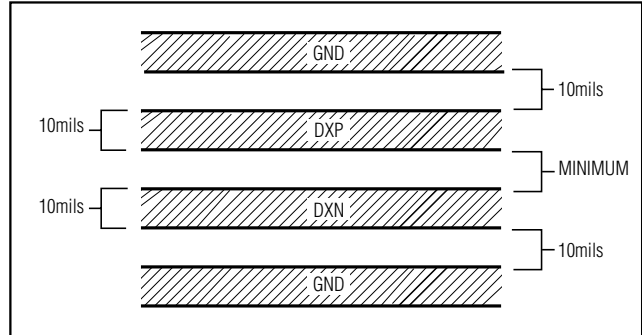

Figure 2. Recommended DXP-DXN PC Traces
- 3) Route the DXP and DXN traces in parallel and in close proximity to each other, away from any higher voltage traces, such as 12VDC. Leakage currents from PC board contamination must be dealt with carefully since a 20M Ω leakage path from DXP to ground causes about 1°C error. If high-voltage traces are unavoidable, connect guard traces to GND on either side of the DXP-DXN traces (Figure 2).
- 6) Use wide traces. Narrow traces are more inductive and tend to pick up radiated noise. The 10mil widths and spacings that are recommended in Figure 2 are not absolutely necessary, as they offer only a minor improvement in leakage and noise over narrow traces. Use wider traces when practical.